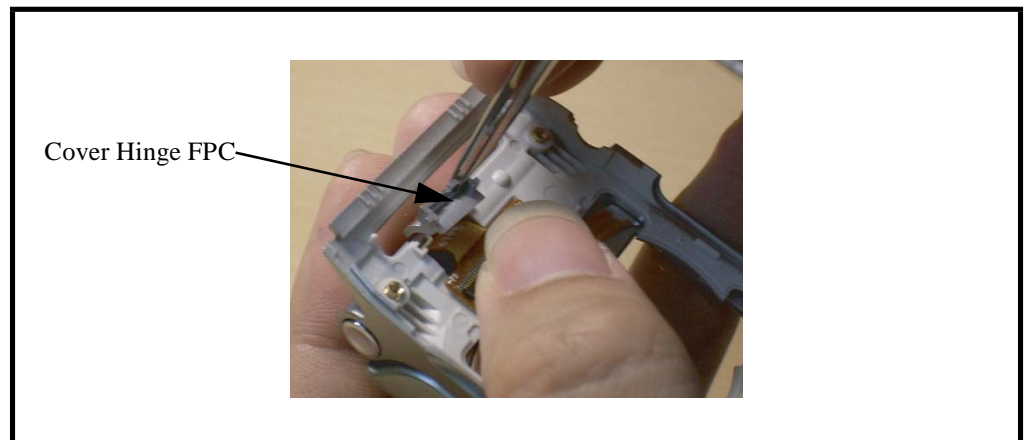

Figure 27. Removing the Cover Hinge FPC
3. Use a tweezers to remove the cover hinge FPC from the rear housing as shown in Figure 27.